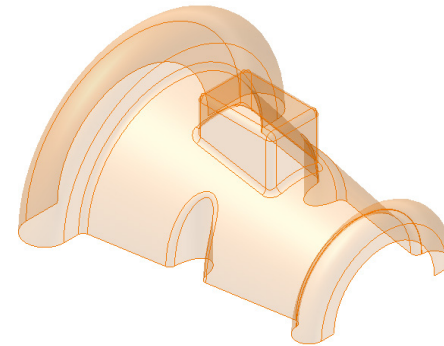

Figure 18-66 Model after filleting surfaces
2. Fillet all the sharp edges of the stitched surface with a radius of 2 mm. The surface after creating fillets is shown in Figure 18-66.